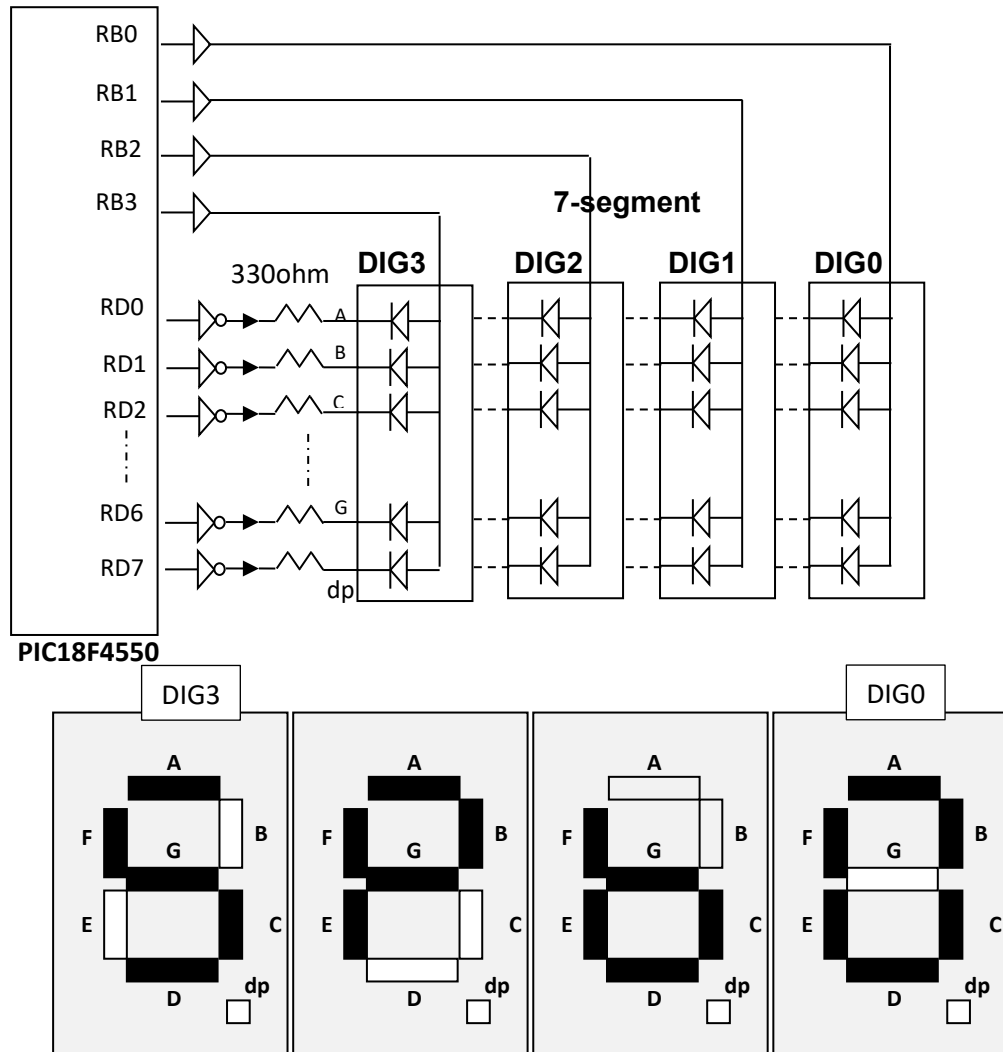

Figure B1a
- B1.** A seven segment display module designed for a PIC18 microcontroller is shown in Figure B1a.
- Assuming voltage drop across an LED is 1.8V, estimate the maximum possible current that may be demanded for the LEDs at any given time considering the circuit diagram show in Figure B1a. (4 marks)